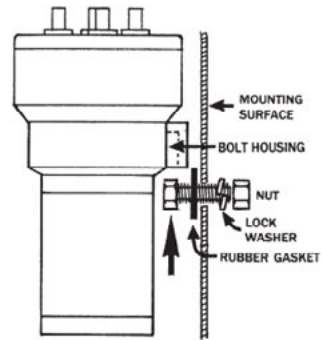

Fig 1
2. Find a suitable location for installing the compressor in your vehicle's bonnet. Ensure that the compressor is not too far from your vehicle's battery, but it is also a safe distance away from the heat emitted from the engine. To secure the compressor, drill a 3/16-inch hole through the metal work and mount the compressor vertically as shown in Figure 1.